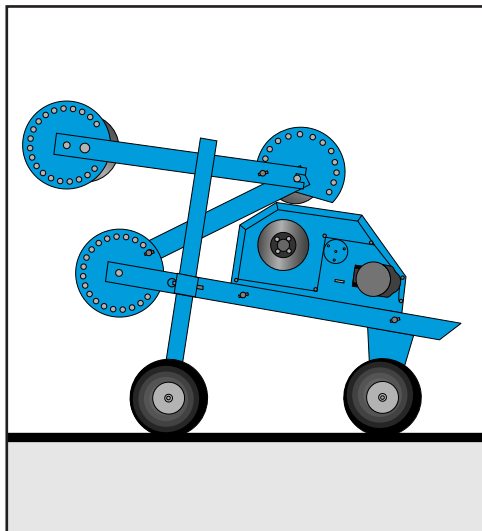

Figure 12 (HD/Plus CableGlider)
1. Remove the two pins that adjust the height of the frame's base and lower it until its holes line up with the vertical support's bottom holes. Re-insert the two pins. (See Figure 12)